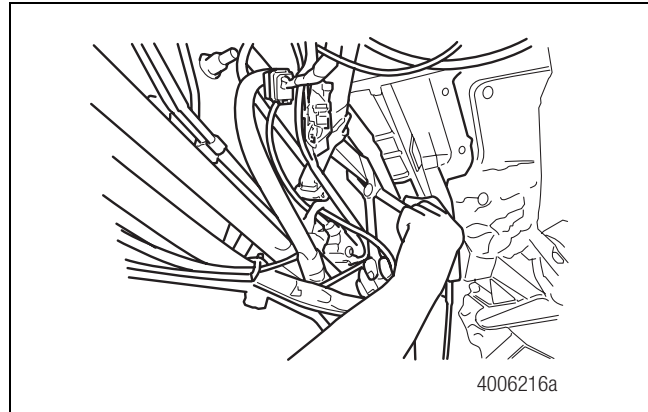

Figure 4.30
7. Use hose clamp pliers to clamp the rubber hose at least three-inches (76.2 mm) away from the entrance to the HCU reservoir. Use care to avoid damage to the plastic reservoir nipple inside the hose. Figure 4.30.